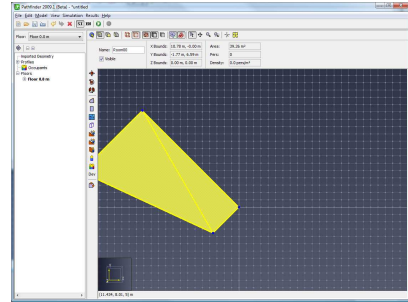

Figure 156. Rotated object
- The third defines a second vector extending from the rotation base (Figure 156). The rotation angle is the angle between these two vectors.